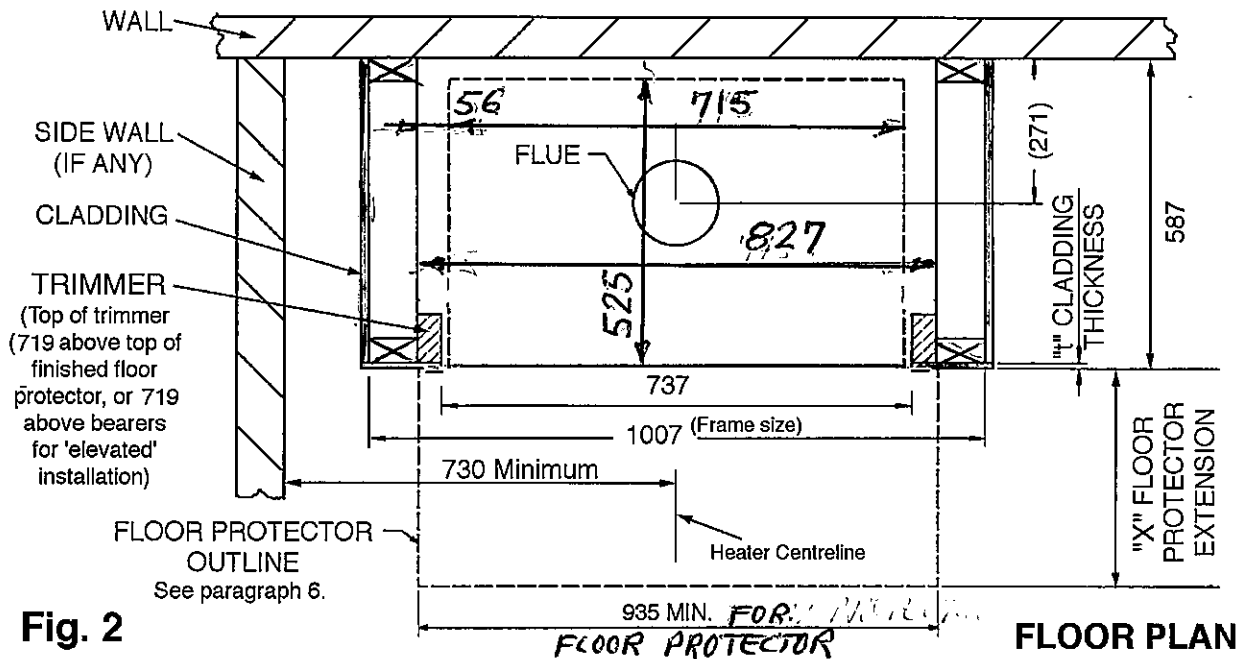

Fig. 2
1. Inspect the house construction at the proposed installation position to verify that the flue shield (250mm diameter, plus 25mm clearance all around) can pass right up through the ceiling space without requiring the removal of essential roof or ceiling support beams. The flue centreline will be 271 mm out from the rear wall and it must be at least 730mm distant from any side wall. (See Fig. 2).
6. For heat sensitive floors, construct a floor protector of the shape shown in the Floor Plan above (Fig. 2). (See **SPECIAL CONSTRUCTIONS** below for concrete floors). The standard floor protector is constructed of two layers of 6mm fibre cement board (such as Hardies Tile and Slate Underlay), topped with a layer of tiles or slate. This will give a thickness of approximately 20mm, and the extension from the face of the front cladding must be at least 412 mm. The floor protector must be at least 935 mm wide, but you may prefer to increase this size to match the fascia width (967 mm).